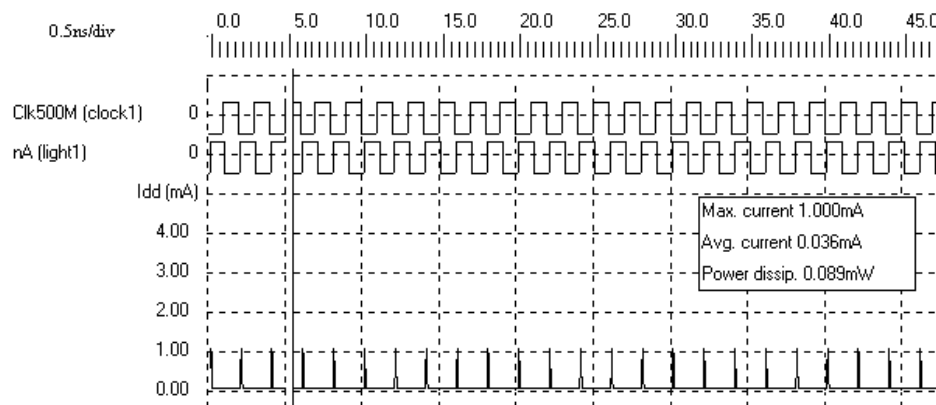
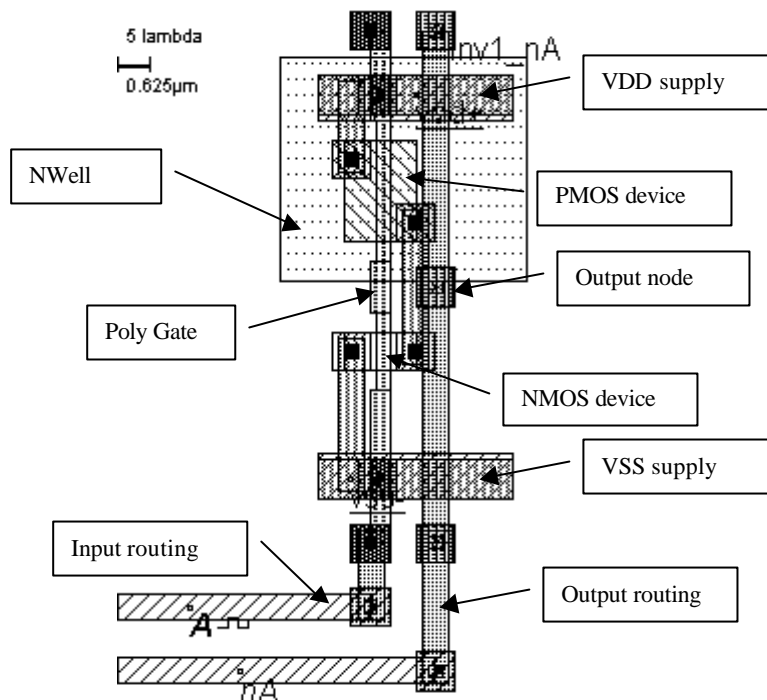

Fig. 3.7: Power consumption increase with the operating frequency (*Fanout1Fast.SCH*)
Fig.3.10: The circuit 'Inverter' compiled into layout
- The predicted power consumption at analog level (3.11) is smaller than at logic level (Fig. 3.7). The explanation is that at logic level, we considered a typical interconnect that acts as a significant capacitance load, thus increasing the power consumption. At analog level, the physical interconnect in the layout of figure 3.10 is a small interconnect, representing a small parasitic load for the inverter, thus reducing the power consumption.